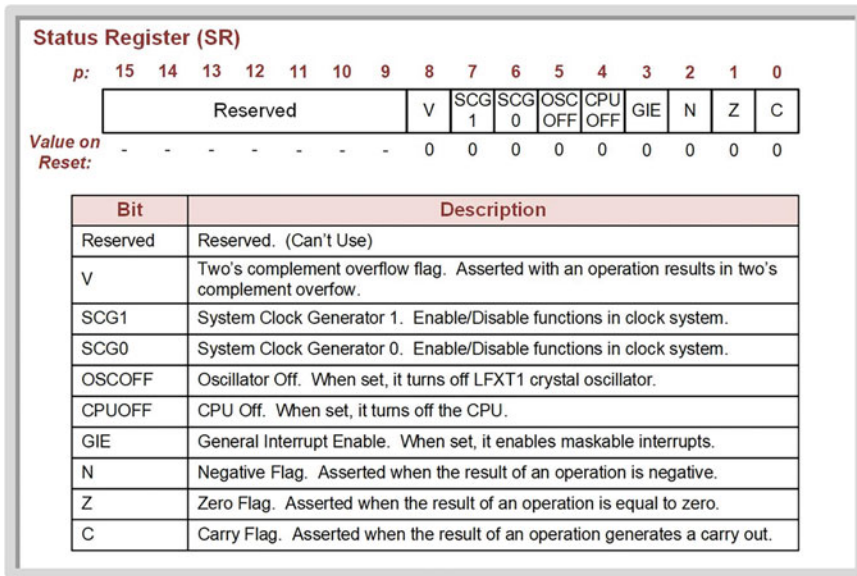

Fig. 4.3
- **R0: Program Counter (PC)** – The program counter holds the address of next instruction in program memory to execute. The program counter in the MSP430 is always used as a full 20-bit register, so it can provide access to $2^{20} = 1,048,576$ address locations (a.k.a. 1M) in the memory system.
- **R1: Stack Pointer (SP)** – The stack pointer also is used as a 20-bit address to access memory; however, it specifically addresses data memory. The SP provides a way to dynamically allocate variable space in the data memory without having to keep track of specific addresses. The concept of a *stack* and its use in the MSP430 will be covered later.
- **R2: Status Register (SR)** – The status register contains status bits, or *flags*, that are asserted when various conditions occur during the execution of the program. This register also contains bits that can be configured to turn on and off certain functions within the computer. Figure 4.3 provides the details of the flags within SR. The detailed use of these flags will be covered later in this book.